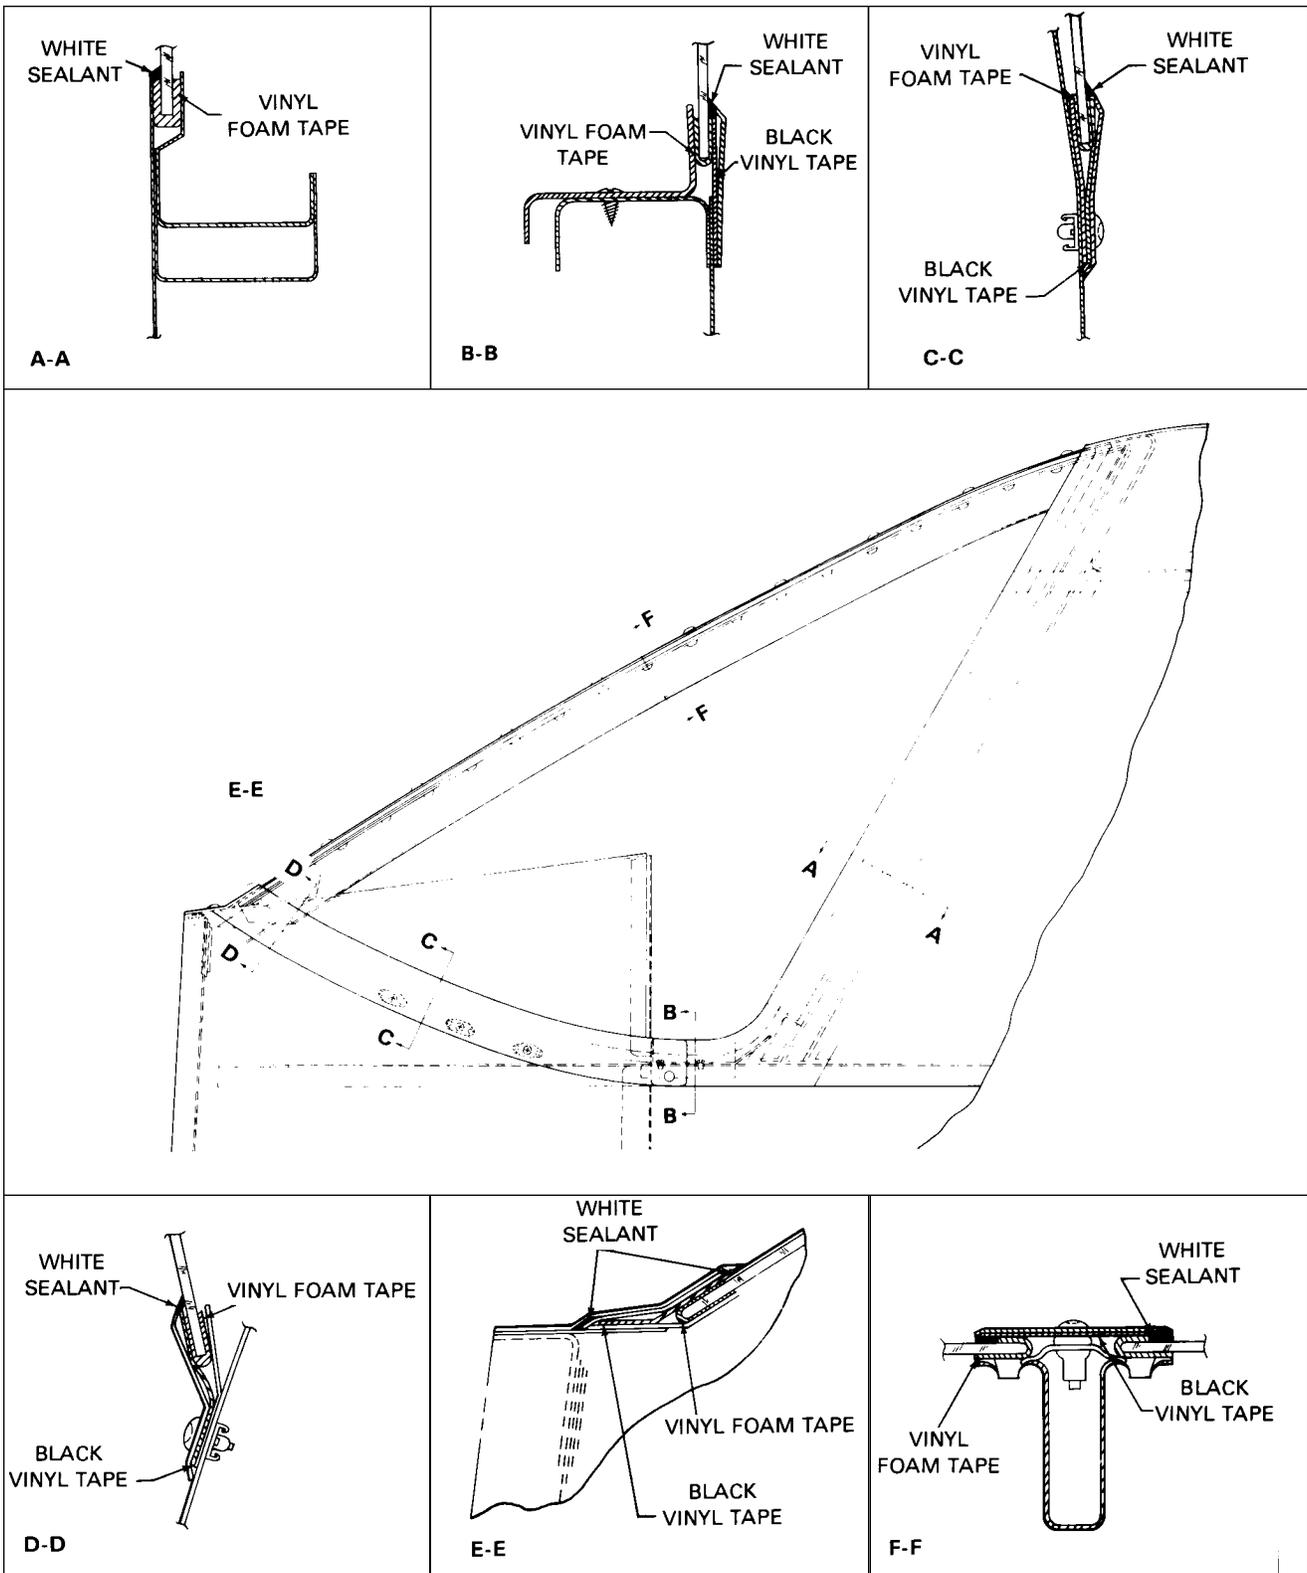

Figure 56-1. Windshield Installation (Typical)
**INSTALLATION OF WINDSHIELD.** (Refer to Figure 56-1.)